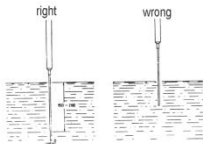

Fig. 7
- * For an accurate reading with liquid temperature probe (see Fig. 7)